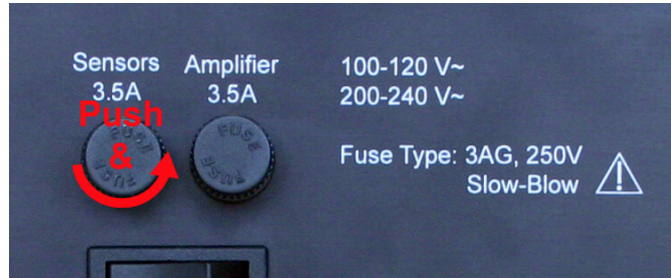

Figure 4.1: Remove fuse holders
3. Remove both fuse holders. To do this, push and twist the knob counter-clockwise and pull the fuse holder out as illustrated in Figure 4.1.